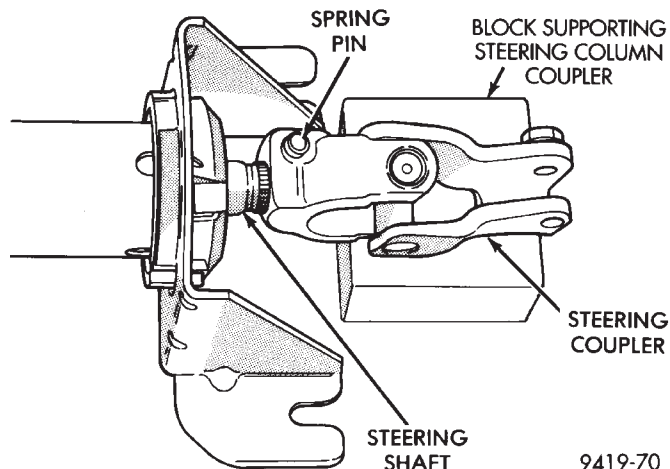

Fig. 36 Coupler Removal And Installation on Steering Column Shaft
CAUTION: Steering column shaft must be supported during removal of spring pin (Fig. 36). This is required to prevent damage to the steering column bearings.
(2) Remove the steering column shaft flex coupler from steering shaft (Fig. 36) by removing the spring pin from the coupler and sliding coupler off end of shaft.
CAUTION: Steering column shaft must be supported during installation of the coupler spring pin (Fig. 36). This is required to prevent damage to the steering column bearings.
(1) Install steering coupler on steering shaft until correctly positioned to allow spring pin to be installed in coupler. Then install spring pin into coupler, until flush with surface of steering coupler (Fig. 36).